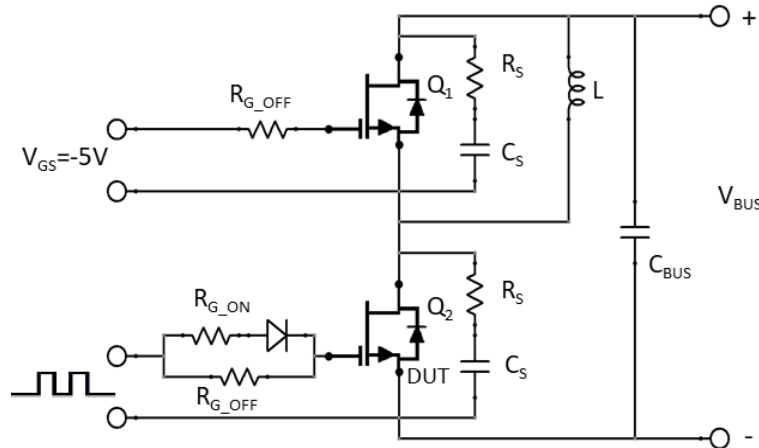

Figure 24. Clamped Inductive Load Switching Test Circuit
6. The switching performance are evaluated with a RC snubber circuit as shown in Figure 24.